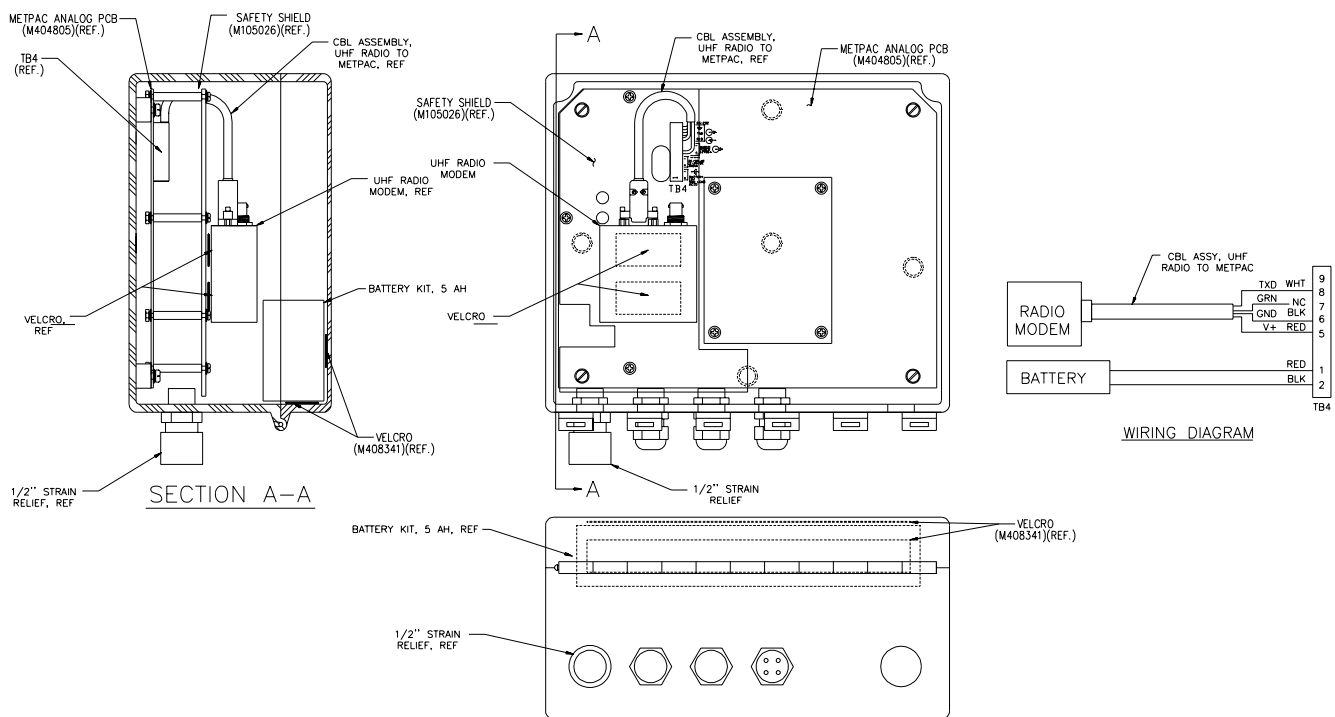

Figure 8
(See **Figure 8**)
- 1 Attach two velcro strips (loop type) to the plastic safety shield within the METPAC in the approximate location shown in **Figure 8**.